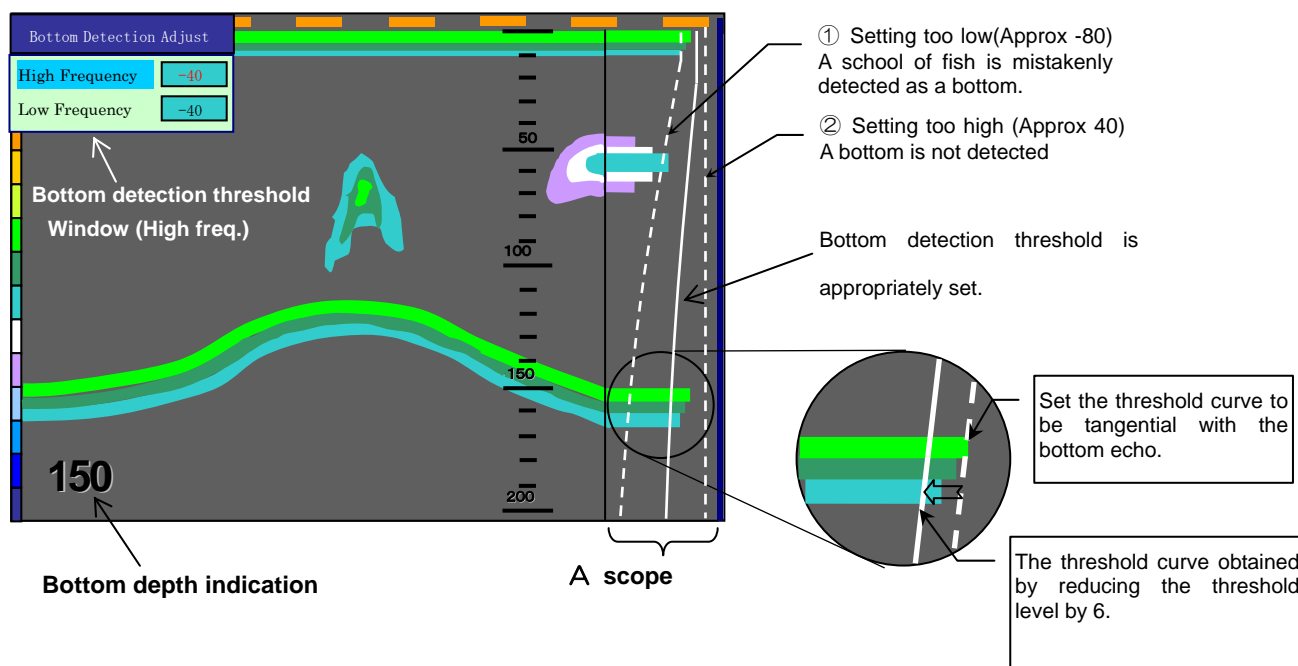

Figure 8 Setting the bottom detection threshold
An overly reduced setting may cause a faulty bottom depth indication as a result of detecting school of fish in shallow depth as a bottom. (Refer to Figure 8 ①)
An overly increased setting, on the other hand, causes no bottom depth indication with the XXXX display. (Refer to Figure 8 ①)
When the target of the best value is determined by A-Scope in Figure 8, look for the point where the Bottom Detection Threshold Adjustment Curve comes into contact with the peak of the seabed. Then reduce the threshold setting by 6.